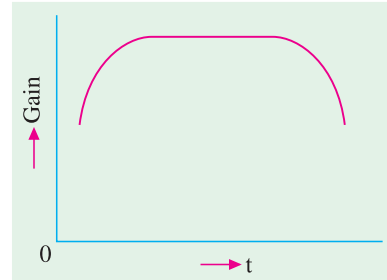

Fig. 61.13
3. Since inductor impedance depends on frequency, the frequency characteristics of this coupling are not as good as those of BC coupling. The flat part of the frequency *versus* gain curve is small (Fig. 61.13).